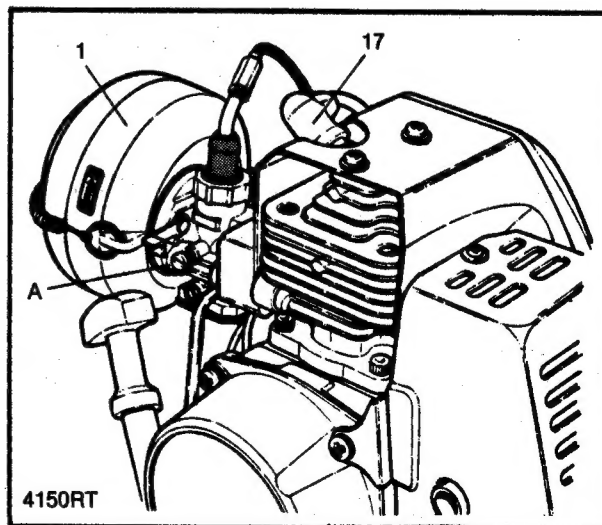

FIG. 13 - SERVICING CARBURETOR
An alternate idle adjustment can be made by changing the TRAVEL length of the THROTTLE CABLE (21). It enters the carburetor top through the rubber cap (C). Refer to FIG. 13-A and proceed as follows: